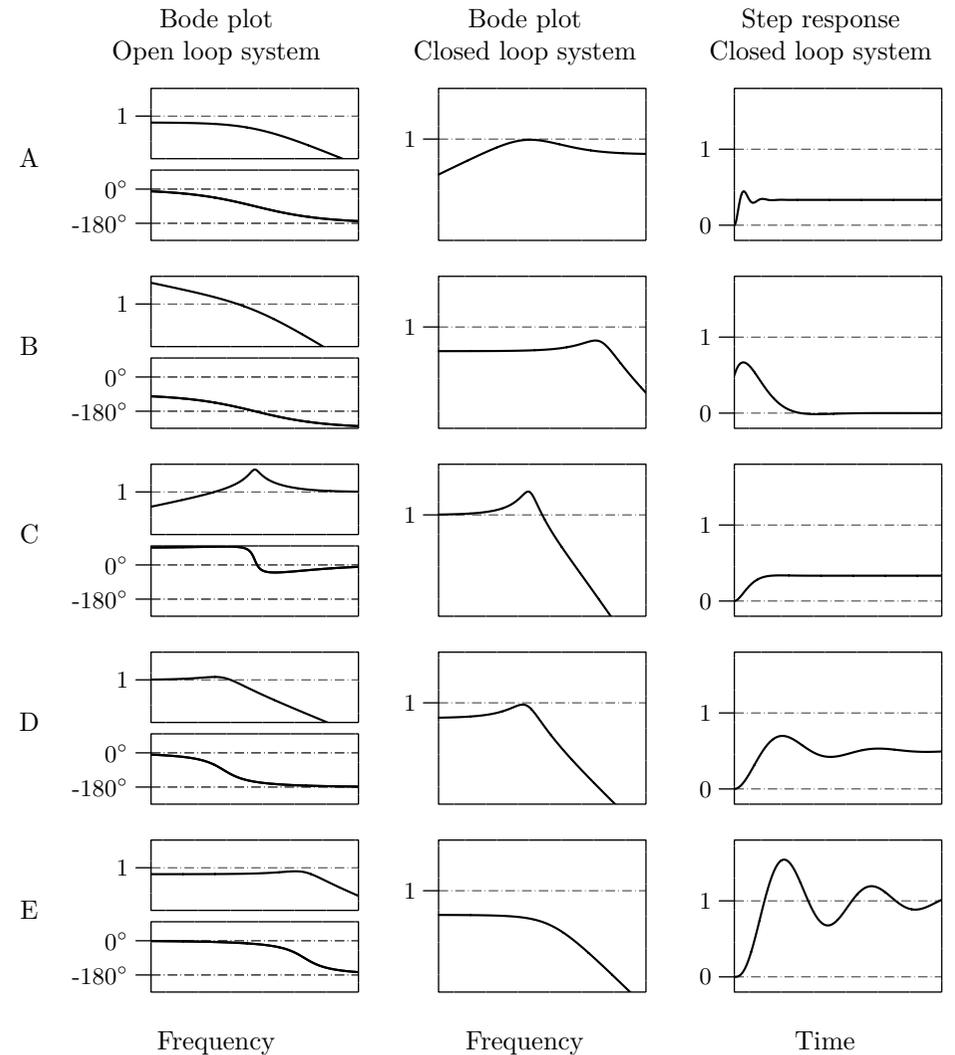

Figure 5.5a. All comparable diagrams have equal scaling.
5.5 In Figure 5.5a we have arranged step responses and open loop and closed loop Bode plots for five different systems. Identify the three plots that belong to each of the five systems, one open loop and one closed loop Bode plot and one step response. Motivate your answer by pointing out one unique feature for each system.